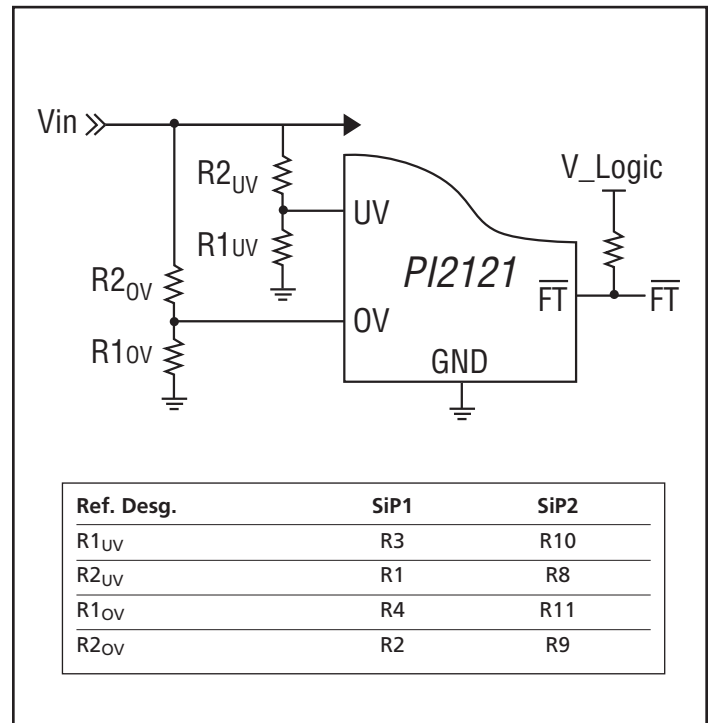

Figure 4 – UV & OV two-resistor divider configuration
2.1 UV and OV programmable resistors are configured for a 3.3 V  $V_{in}$  (BUS voltage) application in a two-resistor voltage divider configuration as shown in Figure 4. UV is set to 2.6 V and OV is set for 3.8 V,  $R1_{OV}$  and  $R1_{UV}$  are 2.00 K $\Omega$  1%. If PI2121-EVAL1 is required to be used in a different  $V_{in}$  voltage application please follow the following steps to change the resistor values.